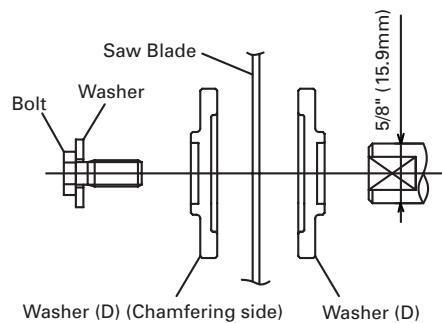

Fig. 33-d
(7) Press in the spindle lock and tighten the bolt by turning it to the left by standard accessory's wrench (10mm box wrench) as indicated in Fig. 33-c.